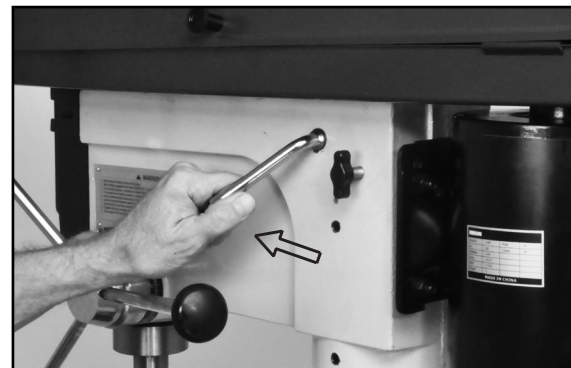

Figure 19
3. Release the tension on the belts so that they can be positioned on the desired pulley steps. Release the locking knobs on the both sides of drill press head by swinging the tension lever from right to left (Figure 19).